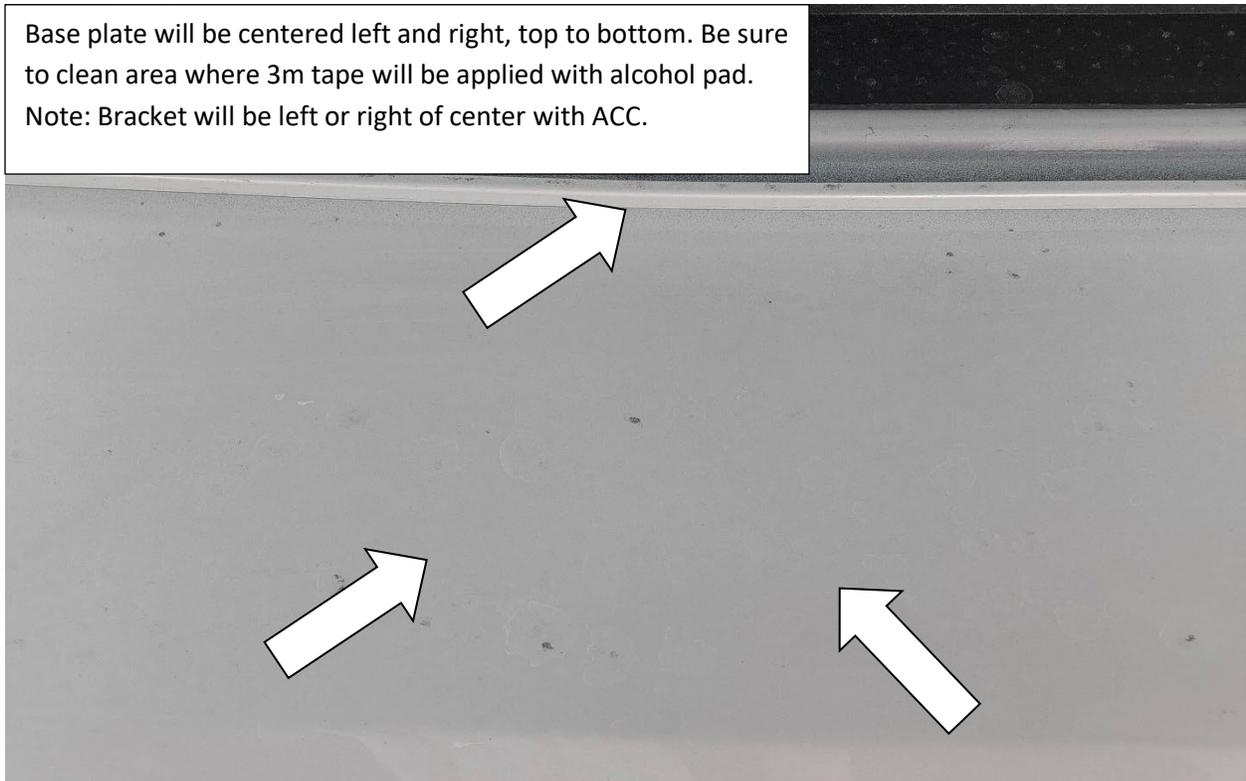

Fig 2
Step 1: Ensure all parts listed above are accounted for. Note: If at any time during the installation process you need assistance please call (408) 776-4080.
Step 3: Center base plate bracket as shown in figure 1. The bracket will be centered on bumper with the back of the front plate sitting approximately ¼” for the bumper as shown in figure 2. Note: The white double-sided tape will help hold the bracket in place while aligning. Slide the front bracket into the tubes to verify alignment. Remove when alignment is complete and continue to step 4. **NOTE: If vehicle is equipped with ACC place bracket either left or right of center to avoid ACC sensor.**